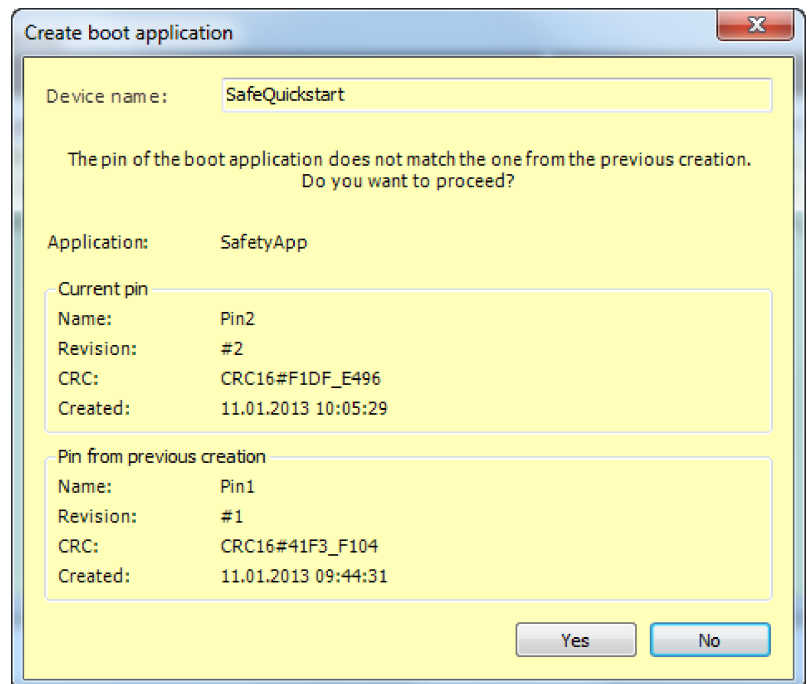

Fig. 84: Dialog: 'Create boot application' for changed pin
- Application is consistent with the Pin, but not with the Pin of the boot application last created from this project (see Fig. 84).